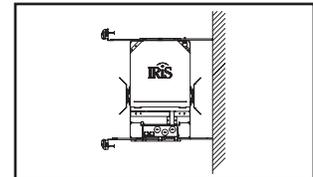

Figure 2.
- When installing wall wash element using the 26 watt double twin tube or 42 watt triple twin tube compact fluorescent lamp housings must be installed parallel to the wall (Figure 2.).